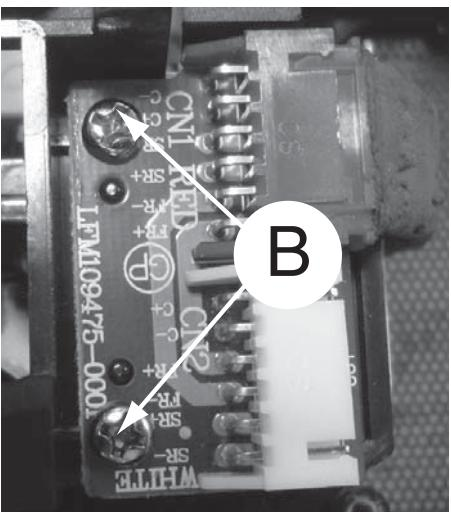

Figure 2
- 1) Loosen 2 screws "B" to remove the SPK Board as shown in figure 2.